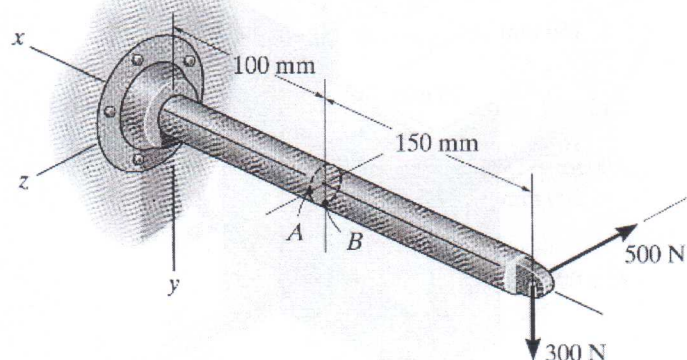

Figure 5.
- (5) The bar shown in Figure 5 has a diameter of 40 mm. If it is subjected to the two force components at its end as shown, determine the state of stress at points  $A$  and  $B$ .